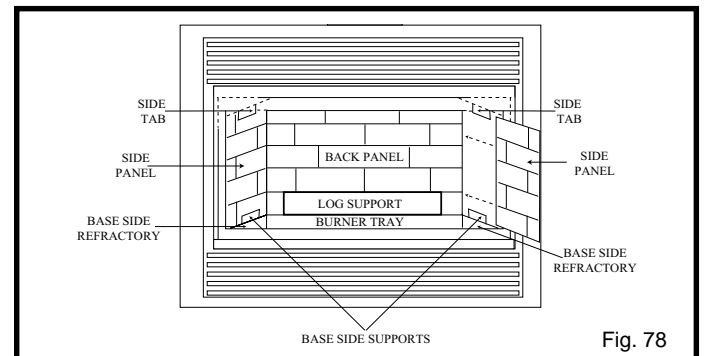

Fig. 78
6. Slide side panels into side supports and behind side tab and adjust, fitting the ceramic tight to the side of the firebox. Tighten nuts. Fig. 78.